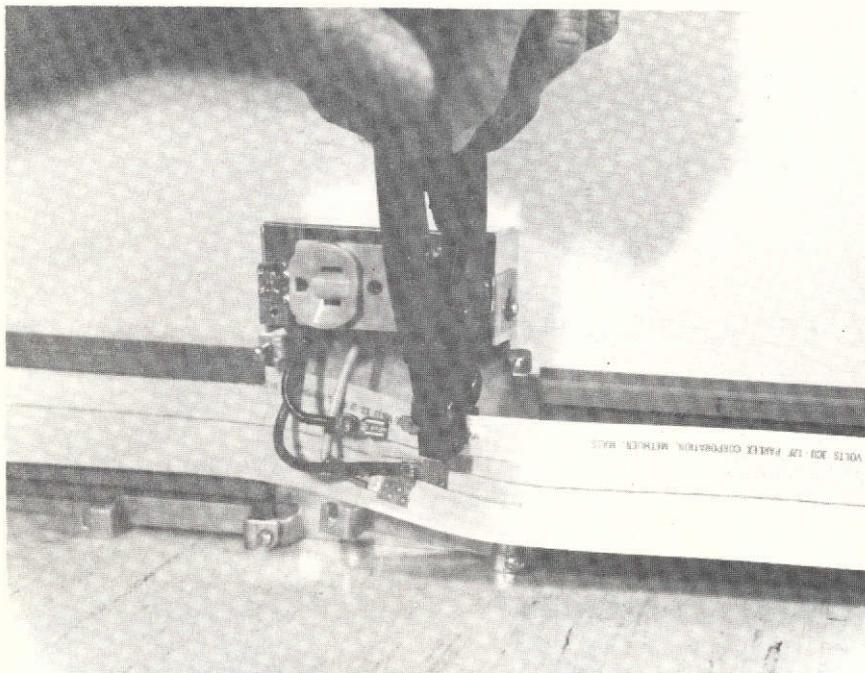

Figure 11. Making Crimp to Conductor
3. Attach AMP termi-foil P/N51943 to top and bottom conductors. With the tab pointing toward the receptacle and on the outside of the cable, fold the adjacent sides over the conductor with the thumb and fore finger. This secures the termi-foil crimp in place and is now ready for final crimping which makes actual contact with the conductor. This is done with AMP Crimping tool 69288-1 as in Figure 11. The crimping lug is already mounted to the safety ground lead. It is attached to the center conductor in the same manner as the other two conductors.